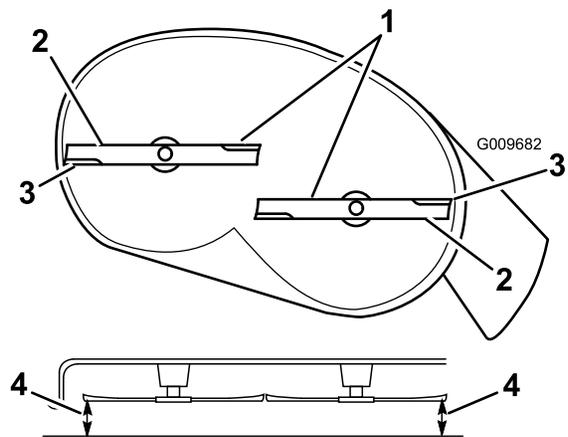

Figure 47
4. Carefully rotate the blades so that they are all side to side (Figure 47).
5. Measure between the outside cutting edges and the flat surface (Figure 47). If both measurements